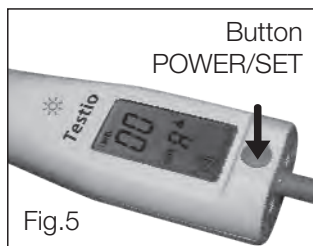

Fig.5
6.6. The device switching on (fig.5)
- Turn off the device power, then press and hold the «POWER/SET» button (fig.5) until you hear the right beep. Changing sound indication will occur in a cyclic circuit.
- To force the reset of measurement results, briefly press the «POWER/SET» button (fig. 5).
- Press and hold down the button «POWER/SET» (fig.5) for about 1 seconds for the device forced switching off.